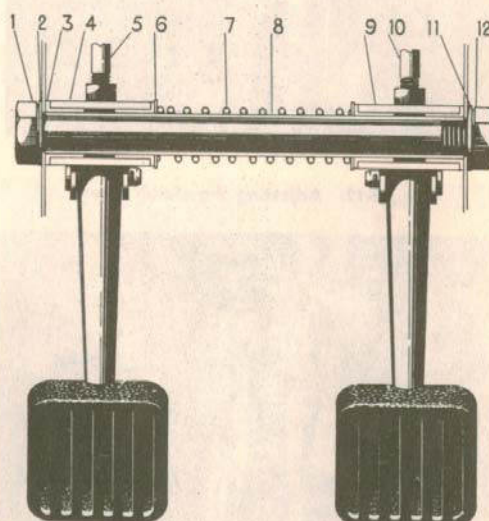

Fig. 2-15. Pedal shaft
1. Remove the split pins and bolts in the pedals. Remove the return springs. Slacken the bolt and nut for the pedal shaft (8) Fig. 2-15. Remove the pedals (4, 9) and shaft.
2. Knock out the bushings (3) with a suitable drift. Press in the new bushings.